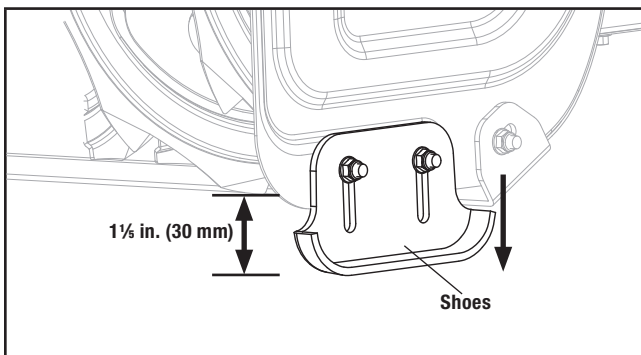

Figure 15B
- On uneven ground, e.g. gravel paths, the shoes should be adjusted to about $1\frac{1}{8}$ in. (30 mm) (the distance from the auger to the ground) (Fig. 15B).